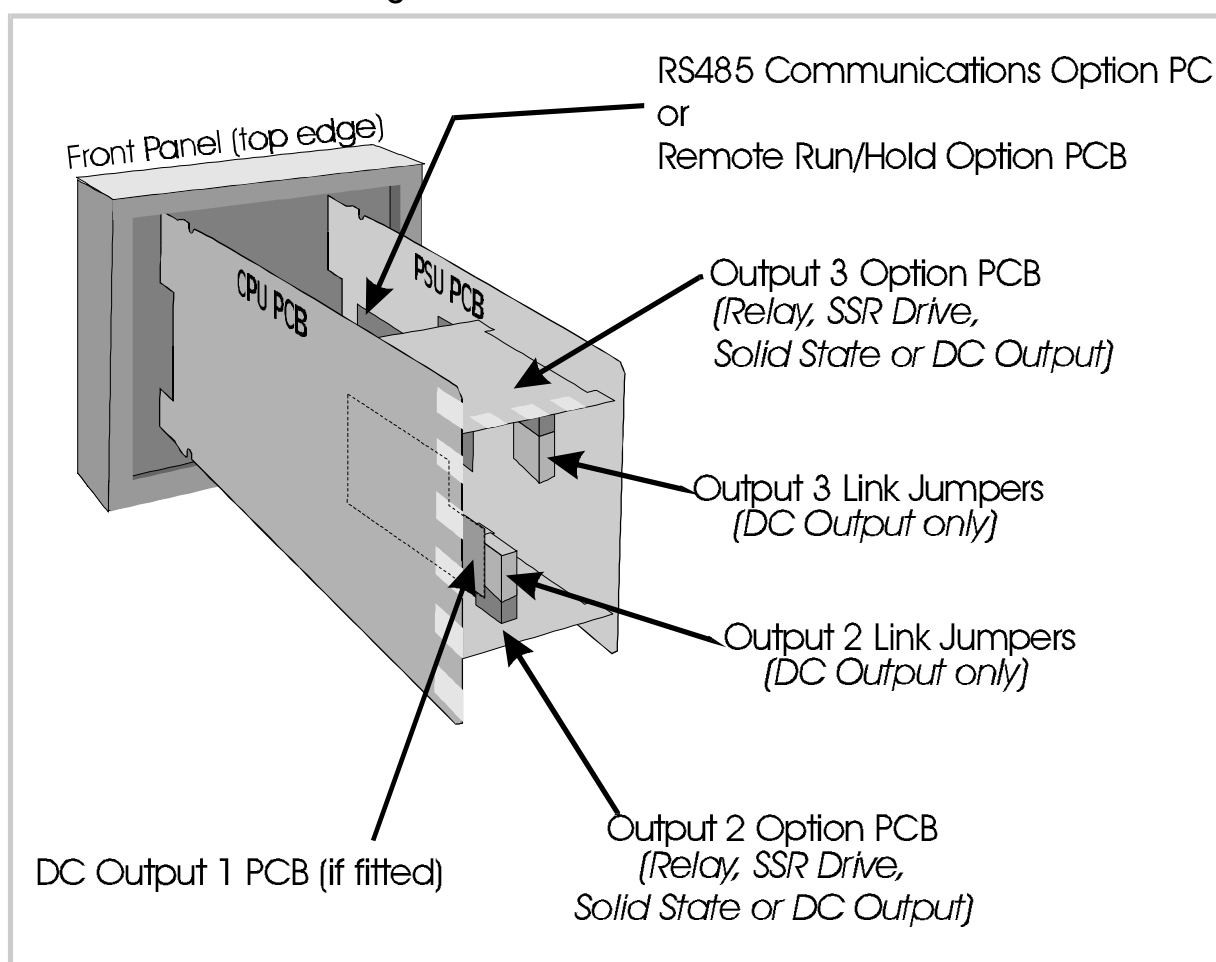
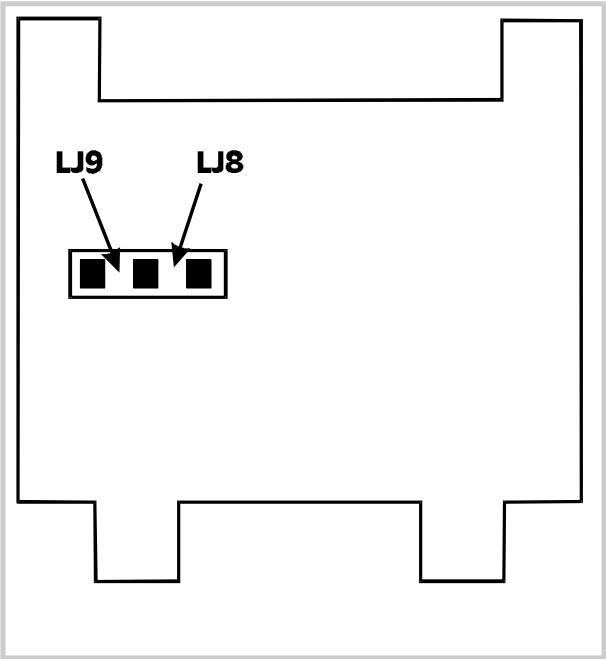

Figure 2-1 PCB Positions
Figure 2-6 DC Output Option PCB (Output 2/Output 3)
To withdraw the instrument from its housing, simply grip the side edges of the front panel (there is a finger grip on each edge) and pull the instrument forwards. This will release the instrument from its rear connectors in the housing and will give access to the instrument PCBs. Take note of the orientation of the instrument for subsequent replacement into the housing. The positions of the PCBs in the instrument are shown in Figure 2-1.
The type of output for Output 2 and Output 3 is determined by the Option PCB fitted in the appropriate position (see Figure 2-1) and, in the case of the DC Output Option PCB being fitted, the setting of Link Jumpers LJ8 and LJ9 on that Option PCB (see Figure 2-6 and Table 2-3). There are three types of option PCB which may be used for Output 2 and Output 3:
- 3. DC Output Option PCB (link jumpers as shown in Figure 2-6)